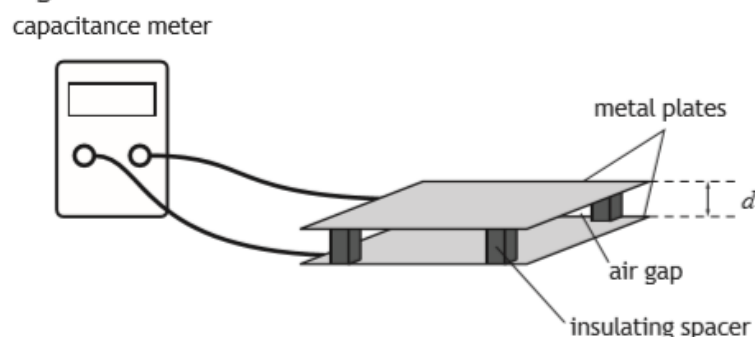

Figure 15A
1. A student constructs a simple air-insulated capacitor using two parallel metal plates, each of area A , separated by a distance d . The plates are separated using small insulating spacers as shown in Figure 15A.